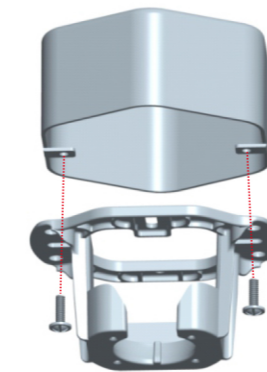

Fig 4.1
- Install the mounting bracket to the ceiling box, as shown in Fig 4.1 below. Rotate the mounting bracket in different directions so that the bracket mounting holes match the screw holes of the ceiling box.
**Note:** This mounting bracket is a standard cable box. If the mounting bracket is installed at the outlet box, it should be installed on the outlet box with two screws matching the outlet box itself, as shown in Fig 4.1.